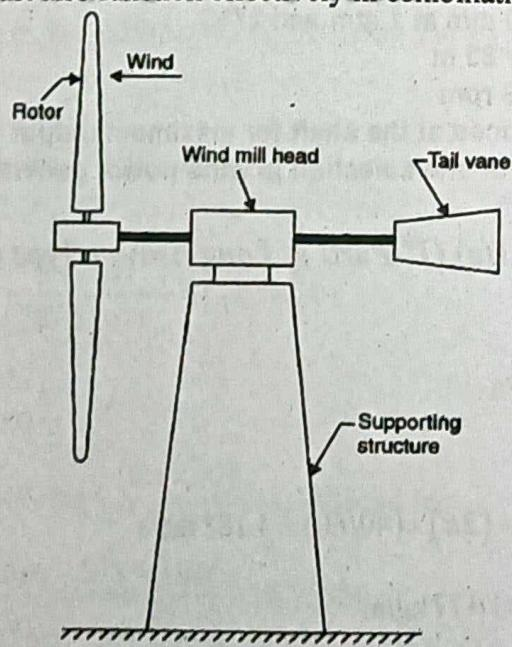

Fig: 1 Horizontal axis wind machine
a) **Horizontal axis wind machines:** Fig. 1 shows a schematic arrangement of a horizontal axis machine. Although the common wind turbine with a horizontal axis is simple principle, yet the design of a complete system, especially a large one that would produce electric power economically, is complex. It is paramount importance that the components like rotor, transmission, generator and tower should not only be as efficient as possible but they must also function effectively in combination.